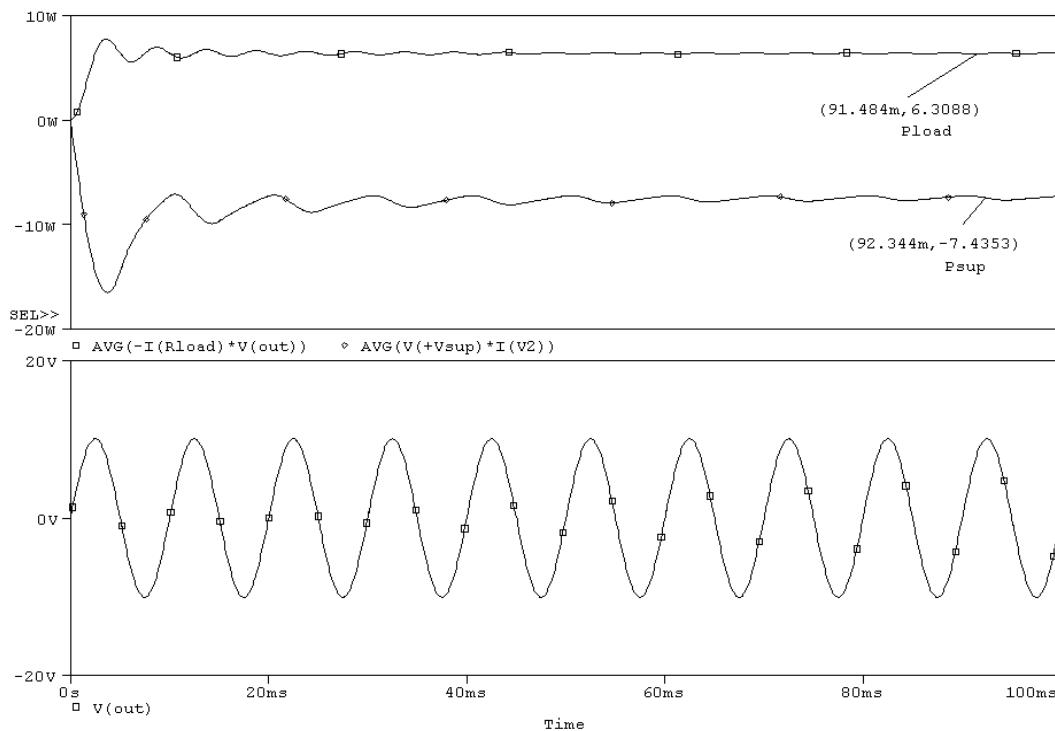

Figure 3-29 Simulation result for Example 3-9
- b.** The simulation Probe display is shown in Figure 3-29. The transient analysis was run for ten cycles of the input, 100 ms, enough to let the average function create a steady value. The step time and step ceiling were both set to 100 μs . This gave 1000 data points, plenty to produce a good representation of the signals.